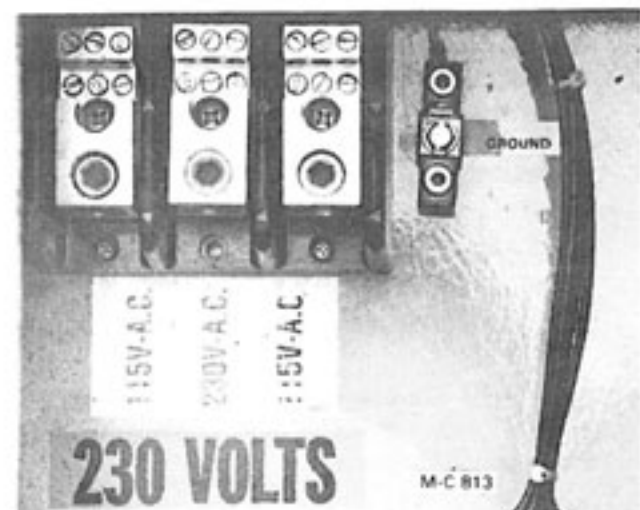

Figure 8
2. Connect the power supply to the lugs on the splitter block in the bottom control cabinet, see Figure 8.
IMPORTANT: The dryer controls operate on 115V. On 230V three phase models, the 230V power supply must be connected to the center lug of the splitter block as shown in Figure 8. If the 230V power source is connected to the 115V lug, the dryer controls will be seriously damaged.
4. Connect the power supply ground wire to the ground lug in the cabinet, see Figure 8. The dryer base **MUST** be grounded to a grounding rod. Select a location that will provide a good clean ground connection.